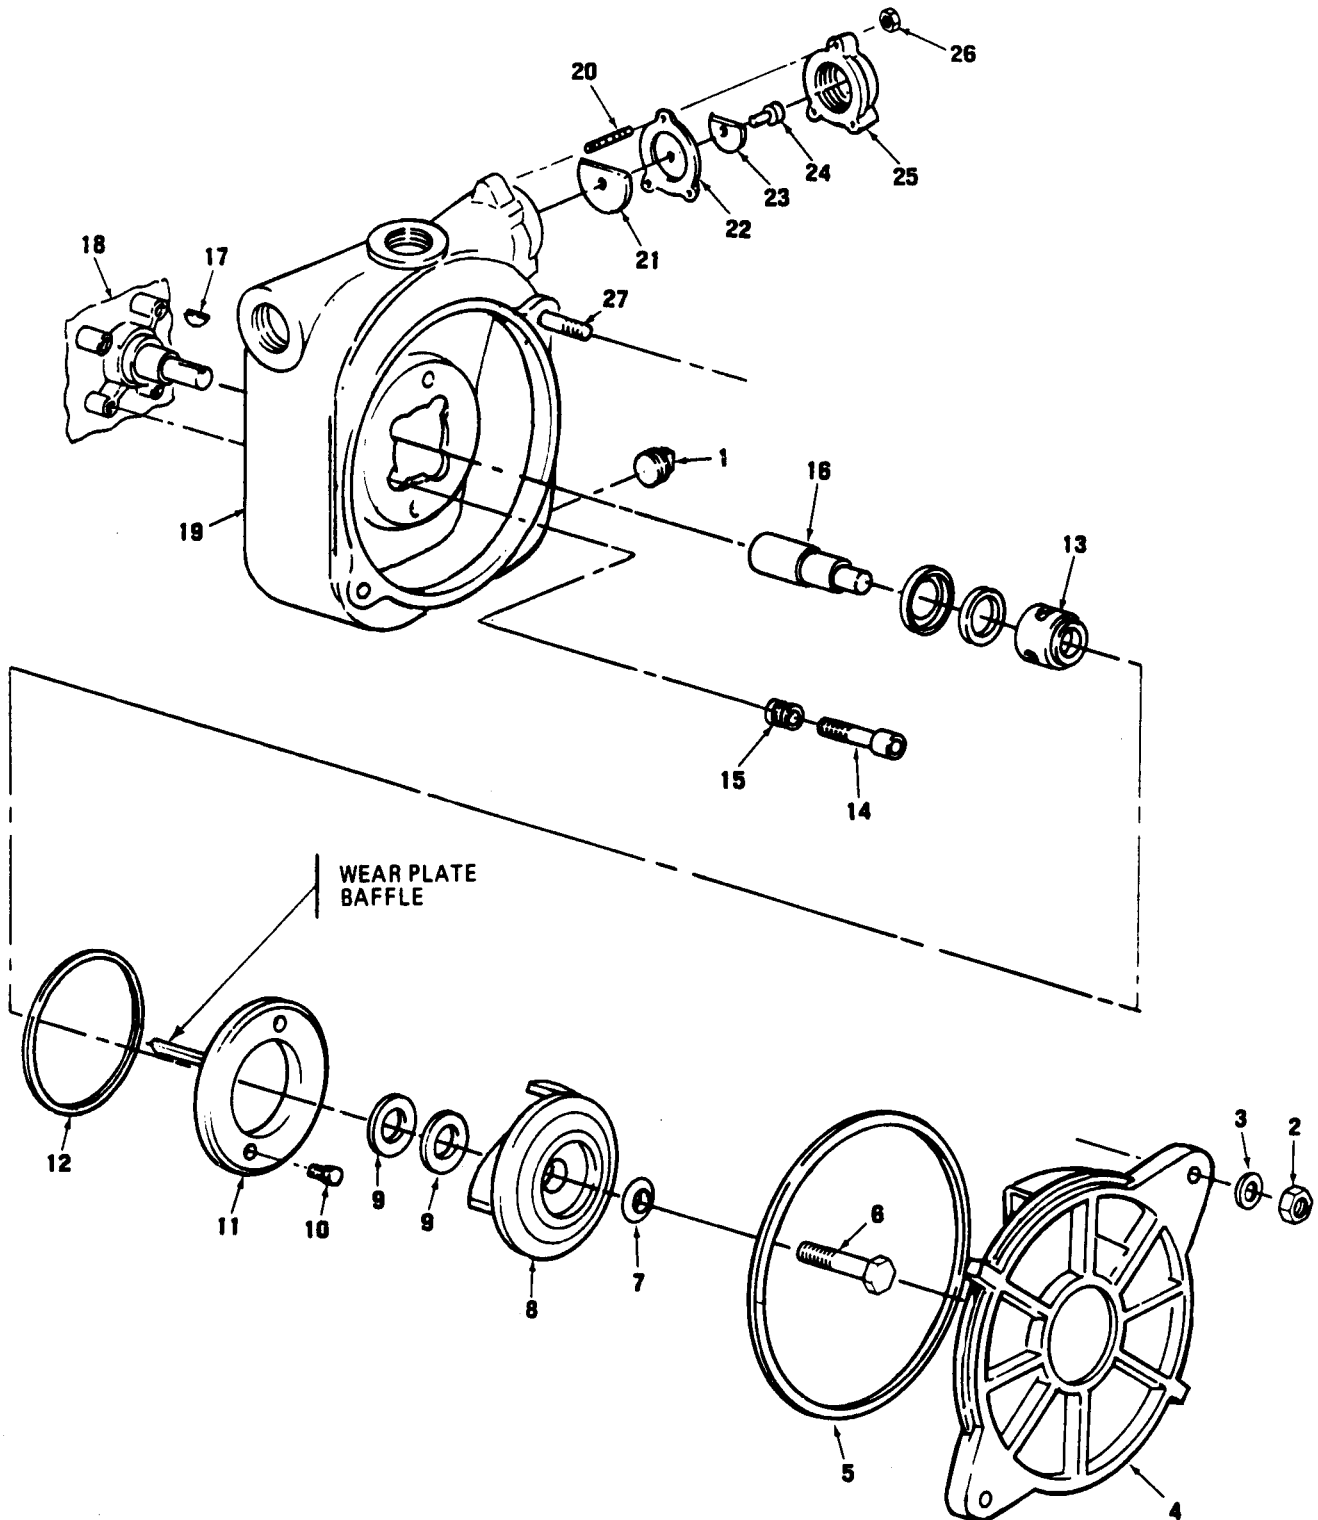

Figure 6-2.1. Centrifugal Pump and Check Valve.
Page 6-3. Immediately after paragraph 6-2c, add the following paragraph 6-2.1 and figures 6-2.1 and 6-2.2:
b. Disassembly. (Figure 6-2.1)
(1) Remove pump drain plug (1) and drain into suitable container.
(2) Remove nuts (2) and washers (3) and remove volute (4) and O-Ring (5).
(3) Remove center screw (6) and seal (7).
(4) Remove impeller (8) by unscrewing counterclockwise while holding shaft stationary. Hold armature shaft stationary with screwdriver in slot.
(5) Remove shims (9), screws (10) and wear plate (11).
(6) Remove O-Ring packing (12) and seal assembly (13).
(7) Extract four screws (14) and compression inserts (15), remove pump from motor.
(8) Remove adapter shaft (16) and Woodruff key (17) from motor shaft (18).
(9) Remove nuts (26), suction flange (25), screw (24), small weight (23), gasket (22), large weight (21) and studs (20) and (27) from pump case (19).
d. Reassembly (Figure 6-2.1).
(1) Attach studs (20) and (27) to pump case.
(2) Install large weight (21), gasket (22), small weight (23), screw (24), suction flange (25) and nuts (26).
(3) Install key (17) and attach pump (19) to motor with four screws (14) and new compression inserts (15). Torque evenly to 32 ft. lbs. (36.90 cm-kg).
(4) Install adapter shaft (16) onto armature shaft. Seat stationary seal into Rubber Seal and slide onto adapter shaft and pump cavity. Install Rotating Seal over adapter shaft (see figure 6-2.1).
When the Seal, Assembly, Shaft is ordered, an alternate configuration of the Rotating Seal may be received. The uncaged spring and carbon seal is fit and functionally the same as the caged Rotating Seal, and is installed in the same way. An illustration of the Alternate Rotating Seal is included in Figure 6-2.1.
(5) Using lubricating oil, lubricate and install O-Ring packing (12, figure 6-2.1) onto wear plate (11).
(6) Install wear plate (11) and screws (10). (Inspect for bent or defective baffle on back side of wear plate).
(7) Install shims (9) as required to maintain impeller-to-wear plate clearance at 0.010 to 0.015 inch (0.025 to 0.038 CM).
(8) Install impeller (8), new retaining packing (7) and center screw (6).
(9) Lubricate and install O-Ring (5), volute (4) and fasten with washer (3) and nut (2).
(10) Connect inlet elbow, discharge elbow, and priming port.
(11) Install pump drain plug (1).